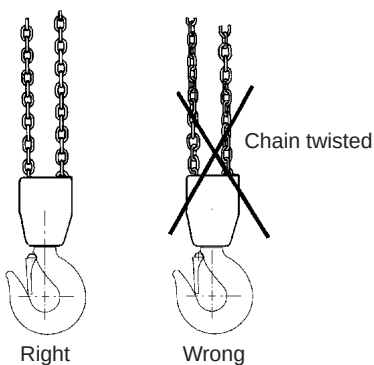

Fig 5
- The chain must not be kinked or twisted. With 2-fall lever hoists (6 t), there is a risk of the chain twisting if the bottom hook assembly ends up looped through the chain sling – usually during refitting or moving the hoist between work stations. See Fig 5.